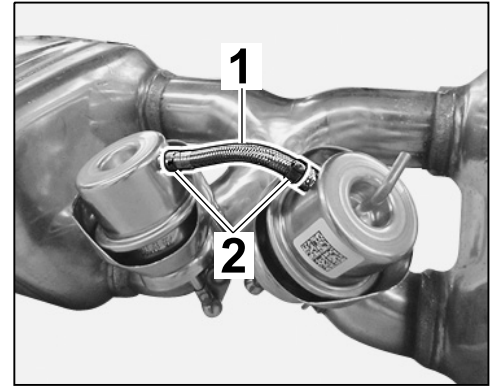

Figure 42
- 5.3 Fit 80-mm steel flexi-pipe ⇒ *Figure 42 -1-* on the connections between the vacuum units.
Lock single-lug clips ⇒ *Figure 42 -2-*.